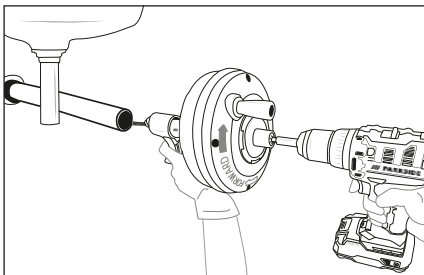

Fig. 3
- 8) Check that the appliance can be kept at a maximum distance of 10 cm from the drain opening. A greater distance from the drain opening increases the risk of the spiral 8 twisting or kinking. If the distance is greater, the drain opening must be extended with pipes and connections of the same size so that the appliance can be placed a maximum of 10 cm in front of the drain opening (see Fig. 3). If the spiral 8 is insufficiently supported, it can kink, twist and be damaged or injure the user.
- 7) Turn the drum **2** clockwise (visible by the arrow on the back of the drum **2**, see Fig. 3) and press the trigger **6**. Operating the trigger **6** guides the spiral **8** into the drain. You can also quickly advance and retract the spiral **8** by pulling it out of the drum **2** or pushing it in by hand.